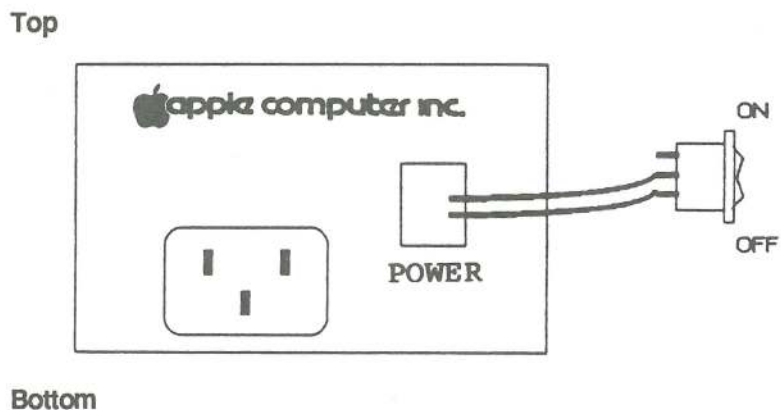

FIGURE 8
- e) Make sure the "ON" side of the switch (the open terminal of the three-terminal switch) is toward the top of the case, and push the switch into its slot in the case until it seats itself firmly. (See Figure 8.)
7. Solder leads to new switch. (See Figure 8 for orientation of 3-pole switch.)